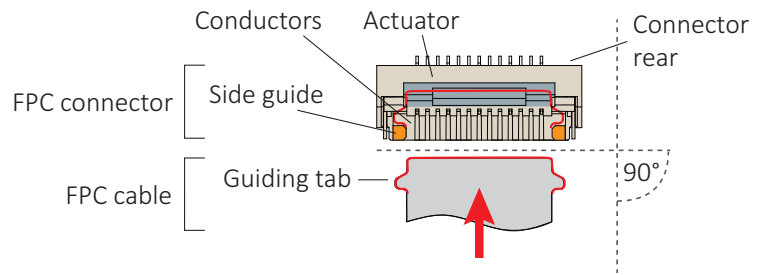
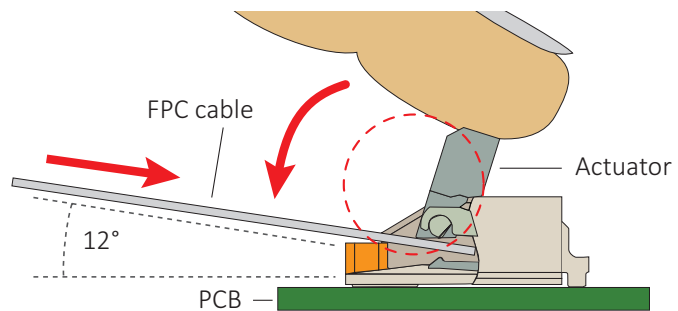

Figure 15: FPC cable and FPC connector
Figure 16: Engaging the FPC cable in the FPC connector
2. **Ensuring proper cable orientation between devices to be connected**, take the FPC cable with conductors facing the FPC connector conductors (see Figure 15 on page 34).
At a horizontal angle of 90° to the connector's rear (see Figure 15) and at a vertical angle of 12° to the PCB (see Figure 16), slowly insert the FPC cable into the actuator...
4. ...until cable guiding tabs are caught between connector rear and side guides (see Figure 15). Pull the cable slightly to ensure guiding tabs are properly engaged.
5. Holding the FPC cable in position, flap down the actuator to closed position (see Figure 16).